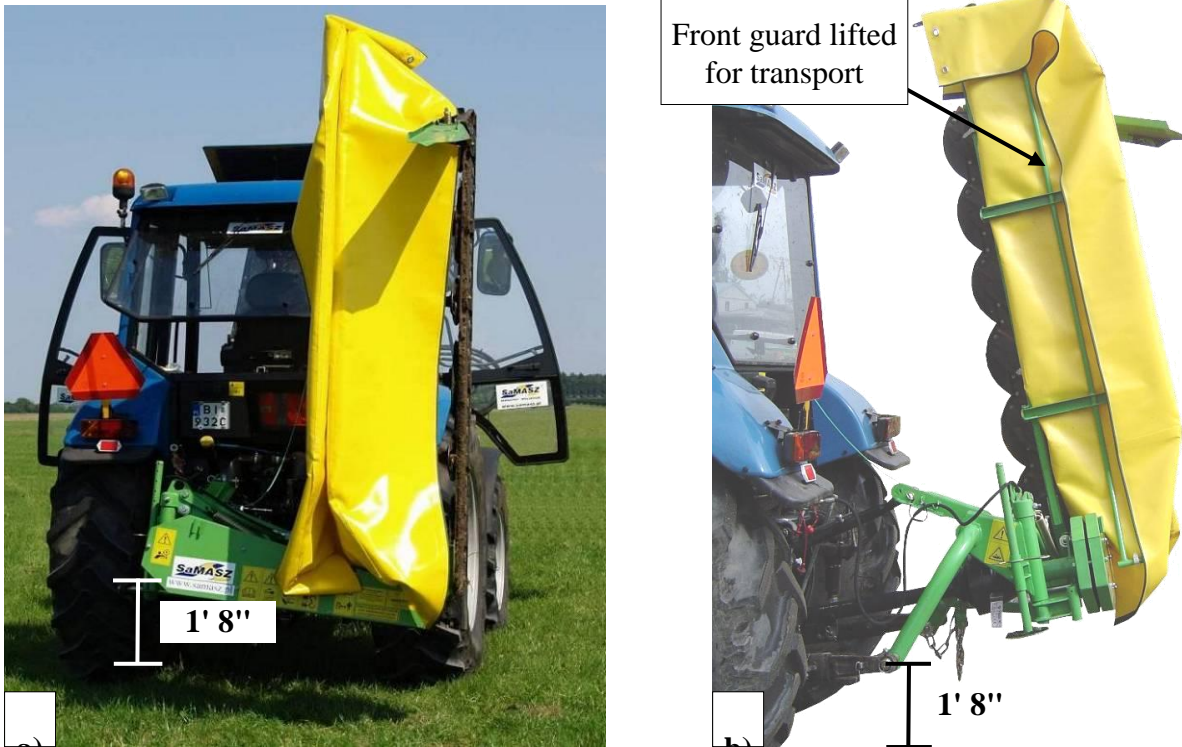

Fig. 13. Transport position
- ❑ lift the mower with tractor hydraulic lift until the lower lift pins of the mower 3-point linkage frame raise about 1' 8" above the ground (**Fig. 13**),
- ❑ lower the mower until the cutterbar is at least 1' 3³/₄" above the ground (Fig. 13),